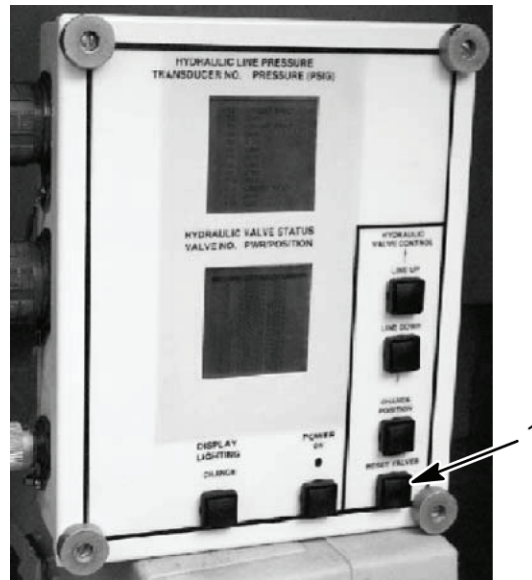

Figure 13. HDC Control Box
- Reset all HDC solenoid valves by selecting the RESET VALVES button (Figure 13, item 1) on the HDC control box.